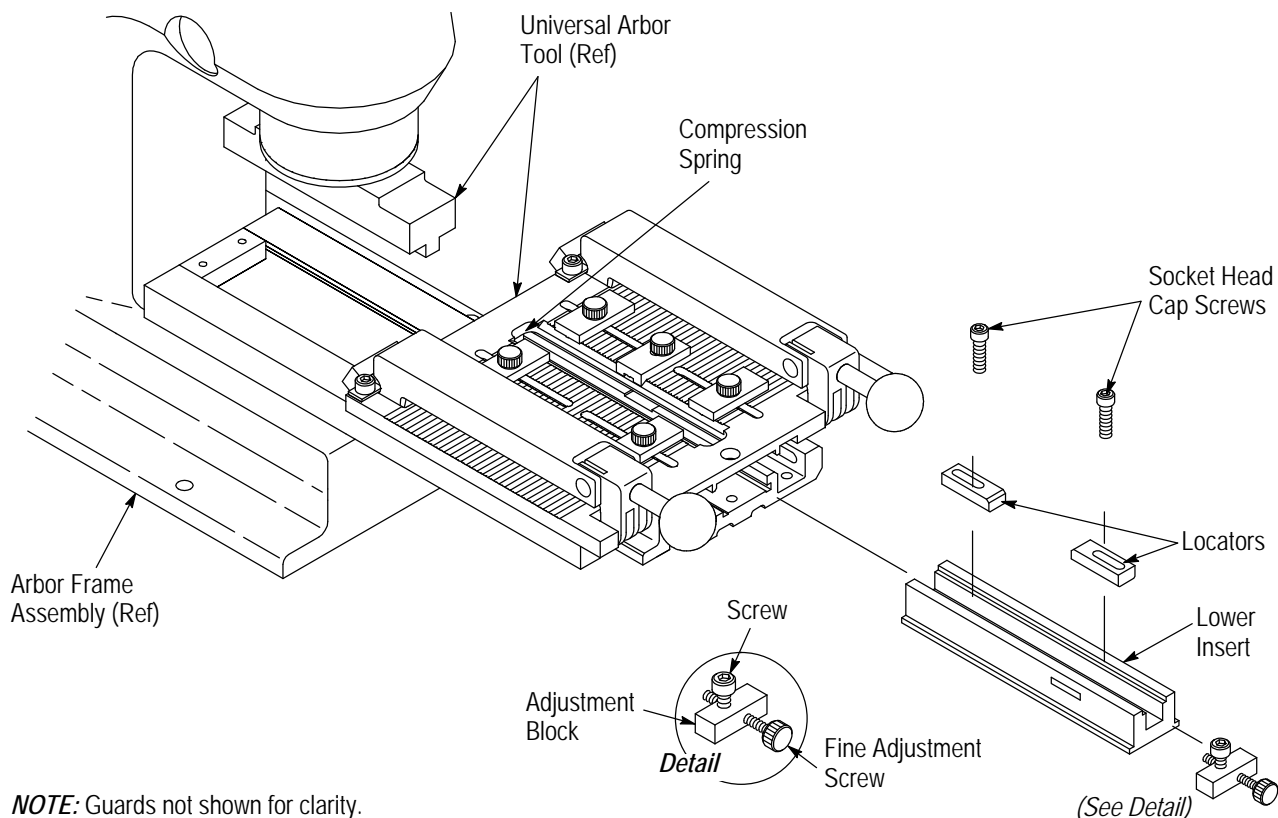

Figure 2
4. Remove the screw that secures the adjustment block to the universal arbor tool then remove the adjustment block. Slide the lower insert onto the base assembly until it is against the compression spring. See Figure 2.
5. Re-assemble the adjustment block. Make sure to orient the block so that the fine adjustment screw is closest to the right side and bottom side of the block. See detail in Figure 2.